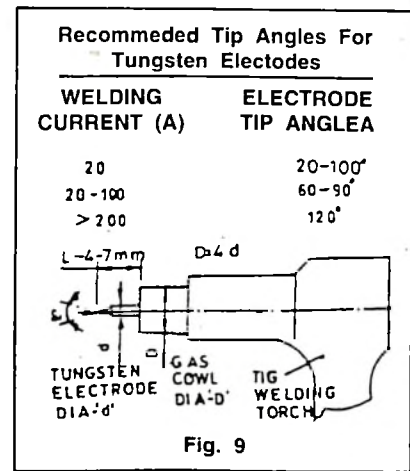

Fig. 9
- As a rule the inner diameter of the gas cowl is about 4 times the electrode diameter. (Ref : Fig.9).
- Recommended TIP angle for Tungsten electrode. (Ref : Fig.9)
- Tungsten rod projection (Ref : Fig.9)